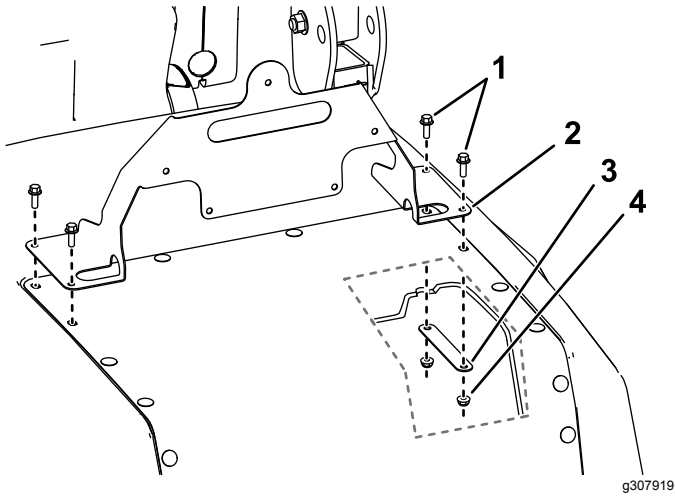

Figure 2
2. Align the sign mount to the hood in the same location as plastic rivets removed in step 1 (Figure 2).
3. Install the sign mount using 4 flange-head bolts (1/4 x 3/4 inch) on top of the hood, and 2 bottom mounts and 4 locknuts (1/4 inch) on the bottom of the hood (Figure 2).